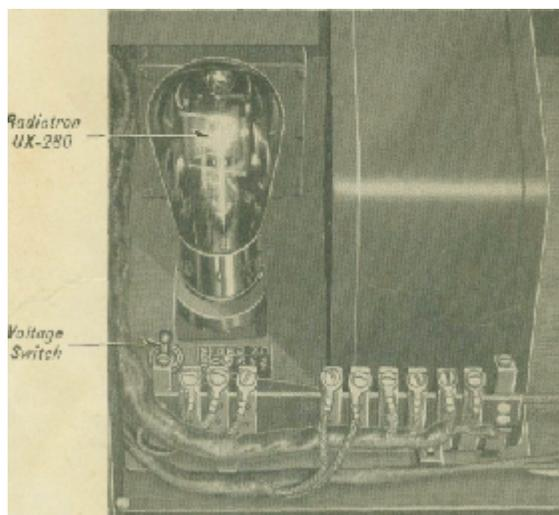

Fig. 5—Socket Power Unit with Terminal Cover Removed—Showing Voltage Switch
*The Voltage Switch, Figure 5, has been previously set at the "120 V." -position and should not be changed unless it is definitely known that the supply is always below 115 volts. (^See "Voltage Switch" Part II.)*
**Voltage Switch**—Where the supply is always below 115 volts, improved reception with normal life of the Radiotrons will be obtained if the Voltage Switch (Figure 5) is set at the "110 V". position. To determine whether the supply is below 115 volts, consult the RCA Authorized Dealer or the Electric Light and Power Company.